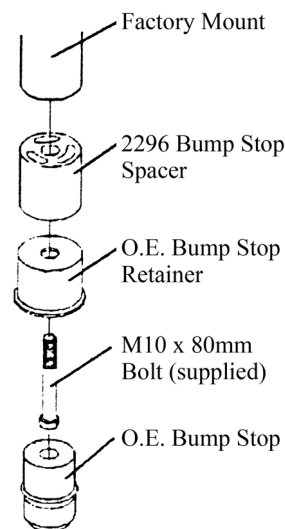

Figure 6
13. Slide the new coil spring spacer onto the upper coil mount. Leave the factory coil spacer in place, the new mount will be positioned below it. While holding the new spacer in place, install the provided bump stop extension between the factory retainer cup and the coil mount. Fasten the extension and retainer cup with a provided 10mm x 80mm bolt. (Figure 6) Torque bolt to 30 ft-lbs.